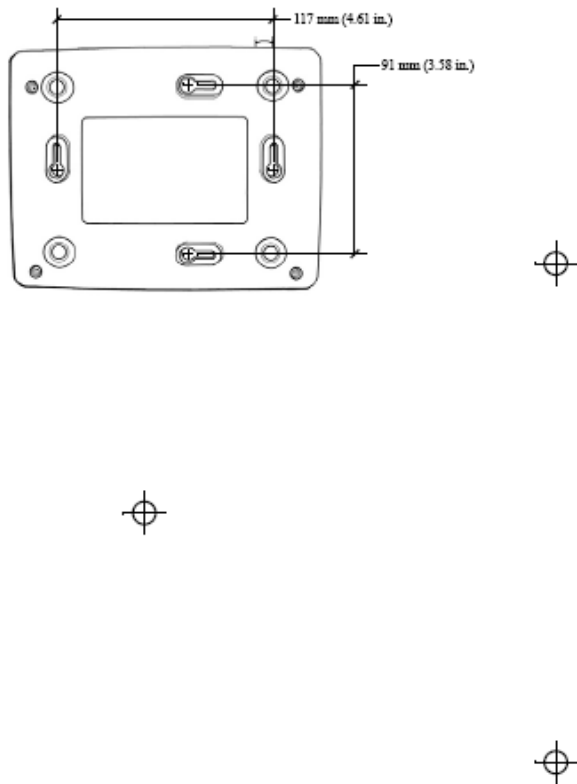
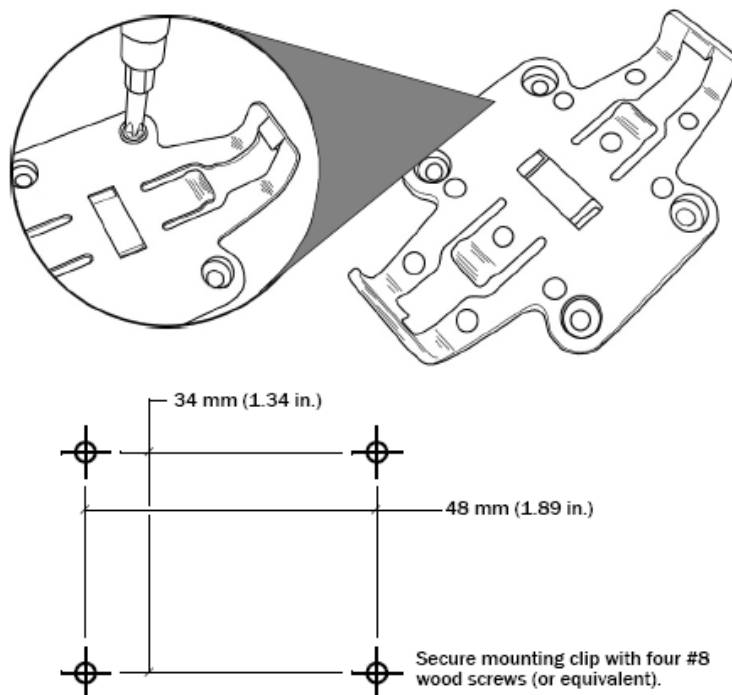

Figure 1-48 Gateway Mounting Details and Hole Spacing Template (N.T.S.) [1]
Figure 1-49 (N.T.S.) Sensor Pod mounting clip can be attached via screws (see hole pattern above), by a wire tie, magnet or double-sided tape [1]
a) Gateways – Gateways can be either set down on their base or fixed using the mounting slots in the base of the gateway. Figure 1-48 shows details of the mounting slots.
b) Pods – Pods may be either set down on their base or fixed using a mounting clip (supplied by distributor). Figure 1-49 gives details on how to use the mounting clips.
Figure 1-48 and Figure 1-49 each contain templates showing Hole Spacings for mounting *EnviroPoint* equipment. Please contact your distributor if requiring assistance with mounting hardware.